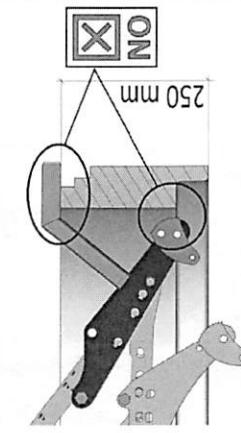

Fig. 2
- Fig. 2 shows a manhole ring with a minimum total height of 250 mm ("10") with "adaptor kit for SVZ-uni" (4400.0079) fitted wrongly.